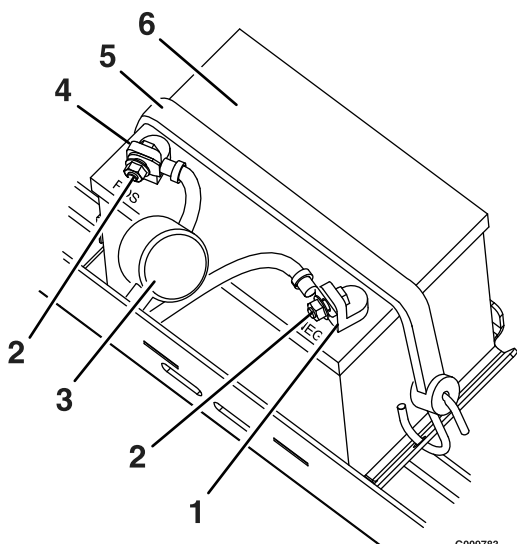

Figure 40
3. Disconnect the negative (black) ground cable from the battery post (Figure 40). Retain all fasteners.
5. Remove the battery strap (Figure 40) and lift the battery from the battery tray.
1. Position the battery in the tray with the terminal posts toward the operating position (Figure 40).
5. Secure the battery with the strap (Figure 40).